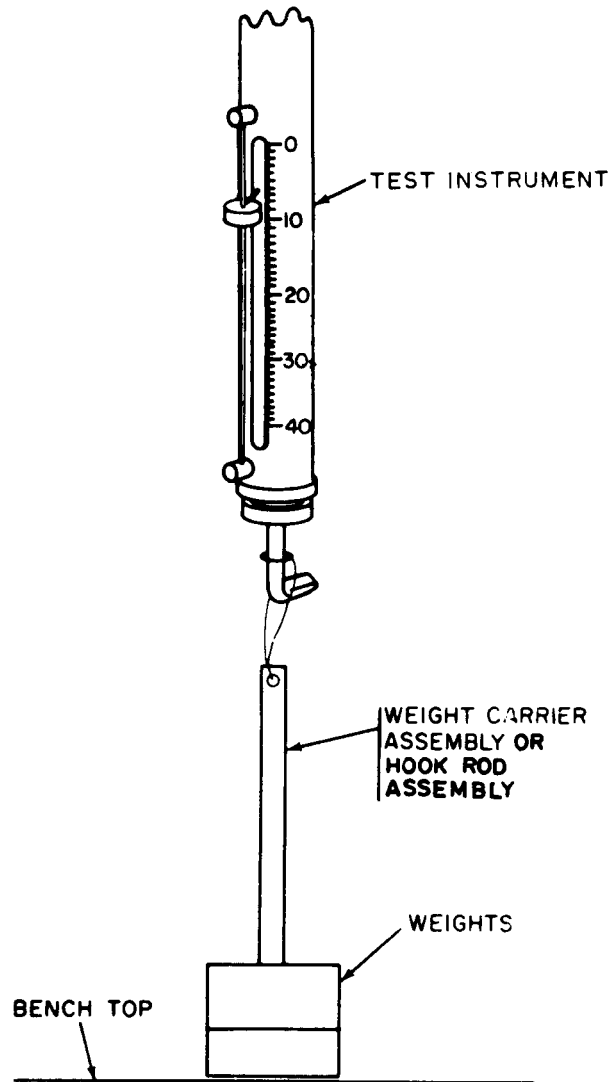

Figure 3. Tension check - equipment setup.
- (1) Hold TI in position in which it is to be used.
- (2) Fasten weight carrier (fig. 3) or hook rod assembly (A1) to TI.
- (3) Allow weight carrier or hook rod assembly to rest on bench top and assemble appropriate weight.
- (4) With TI in a vertical position, raise TI until all weight is supported by the hook. Maximum reading pointer should indicate amount of weight used plus weight of weight carrier or hook rod assembly ± 1 graduation.